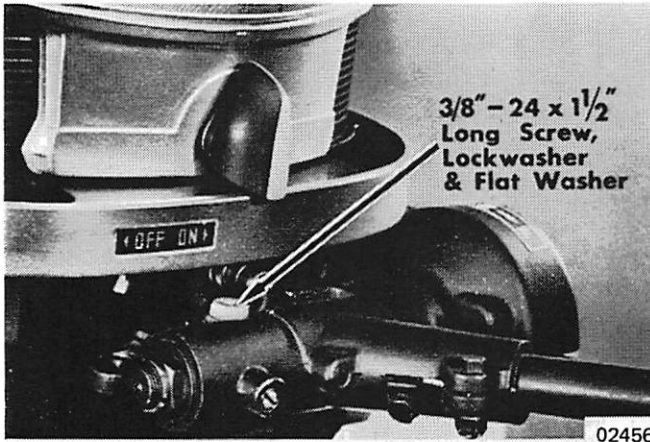
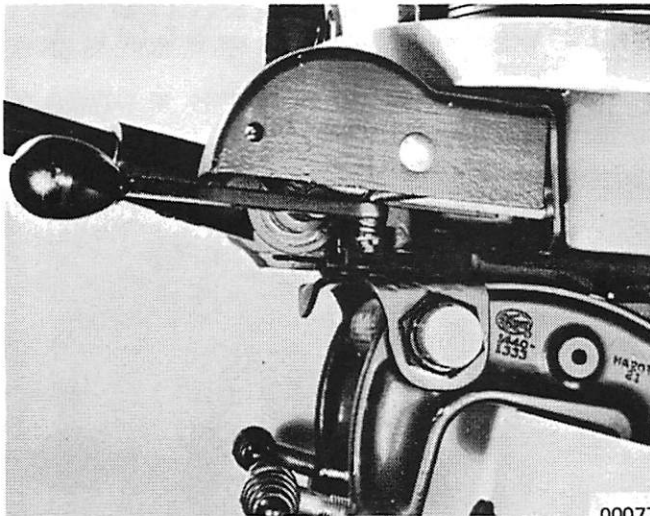

Figure 5. Handle Assembly Installed and Set Screw
Figure 6. Handle Assembly Installed & Set Screw
4. Insert throttle and shift link rods thru opening in left side of cowl and place handle assembly in position on engine steering lever. (Figure 5)
5. Fasten handle assembly to engine steering lever with 3/8-24x1-1/2" long screw, lockwasher and flat washer which are in plastic bag. Tighten screw securely. (Figure 5)
6. Tighten set screws ("A" in Figure 5 and "B" in Figure 6) securely. Tighten jam nuts, which are threaded on set screws, securely.